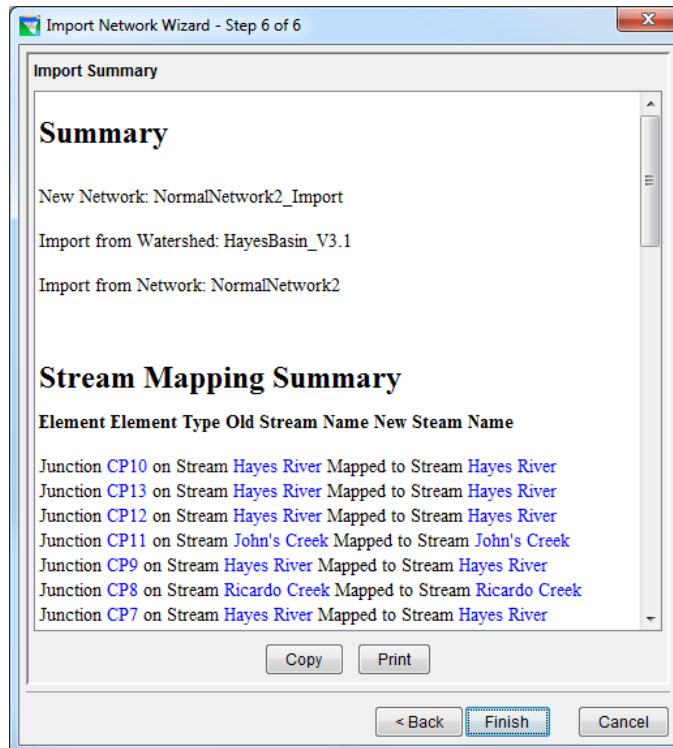

Figure 19 Import Network Wizard – Step 6 of 6 (Import Summary)
With the reservoir tool  or the pointer tool  selected, right-click on a reservoir, select **Edit Reservoir Properties** and the Reservoir Editor window will appear as shown in Figure 19. This editor has a tab panel with three tabs: **Physical** tab [Chapter 9], **Operations** tab [Chapters 10 and 11], and **Observed Data** tab [Section 8.3].
- **Enter Pool Properties.** Click on **Pool** to enter the Elevation vs. Storage vs. Area data (as shown in Figure 19). At least two rows are required for **Elevation**, **Storage** and **Area** data, with values increasing down the columns (no duplicate values). The maximum elevation should not exceed the Elevation at top of dam, which is input when **Dam** is selected. Pool losses can be specified by right-clicking on **Pool** and selecting **Add Pool Evaporation** and/or **Add Pool Seepage** [Section 9.3.1].